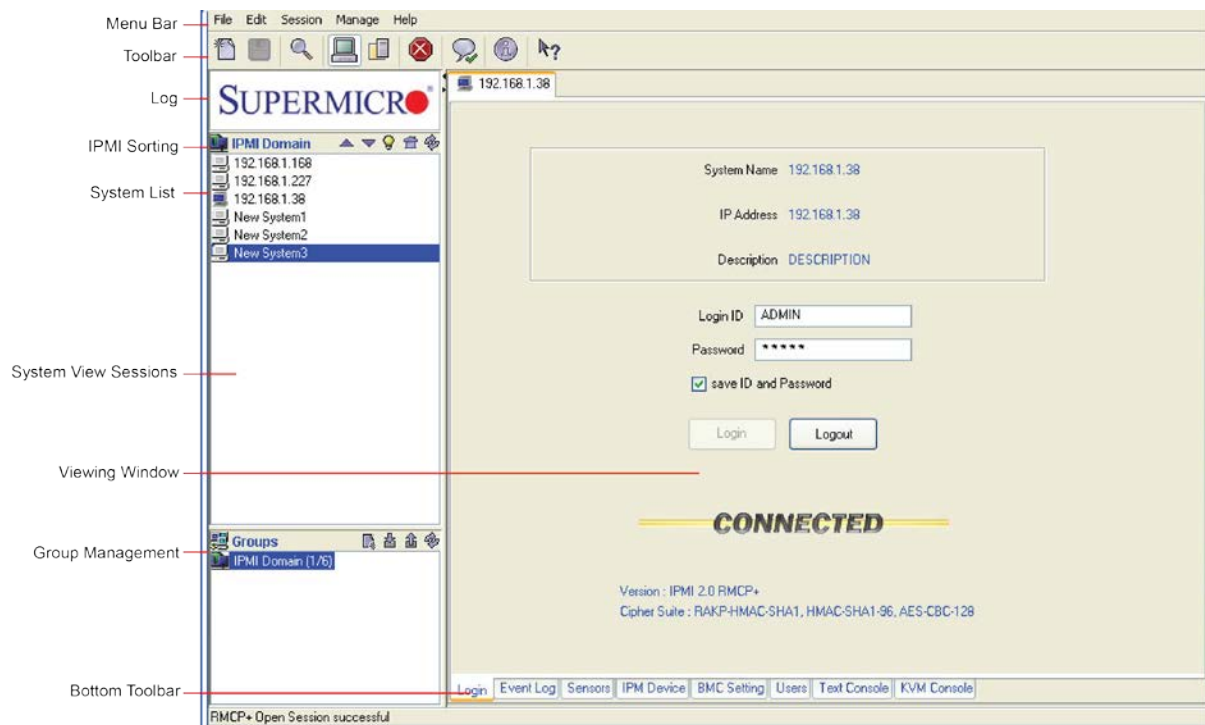
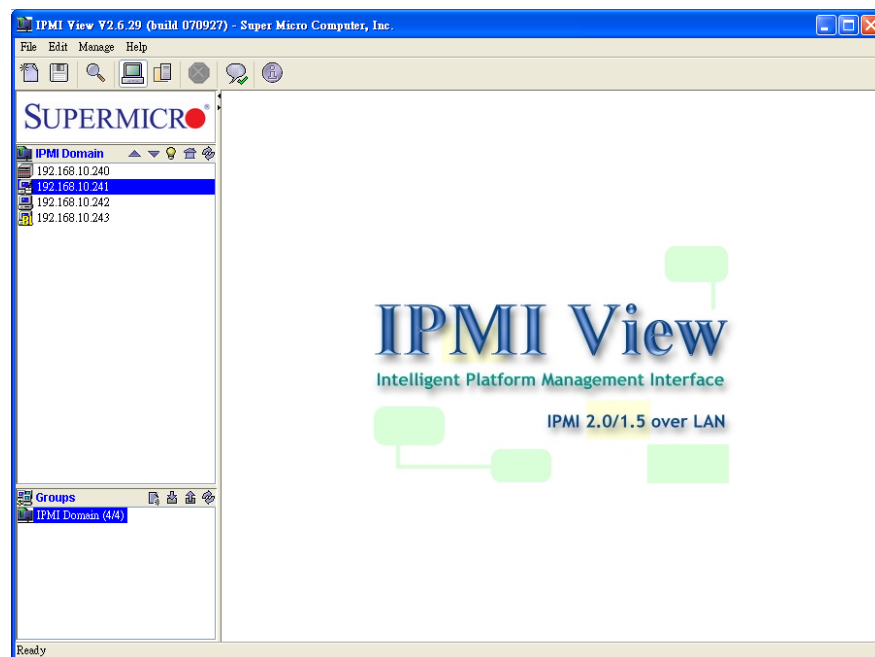

Figure 2-1
Figure 2-2
- **Toolbar:** contains functions that allow you to execute commands quickly. Click the icons on the toolbar to add a new system, save the current configuration settings, to discover IPMI devices, to access group management, to discontinue the IPMI View section and to access the help menus. See Figure 2-2 for details.
As shown in Figure 2-1, there are several components in the IPMI View window (Figure 2-2):